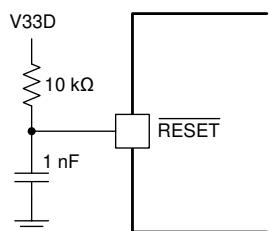

Figure 39. $\overline{\text{RESET}}$ Pin With R-C Network
- If an application does not use the $\overline{\text{RESET}}$ signal, the $\overline{\text{RESET}}$ pin must be tied to V33D, either by direct connection to the nearest V33D pin (Pin F10), or by a R-C circuit as shown in Figure 39. The R-C circuit in Figure 39 can be also used to delay reset at power up. If an application uses the $\overline{\text{RESET}}$ external pin, the trace of the $\overline{\text{RESET}}$ signal must be kept as short as possible. Be sure to place any components connected to the $\overline{\text{RESET}}$ signal as close to the device as possible.